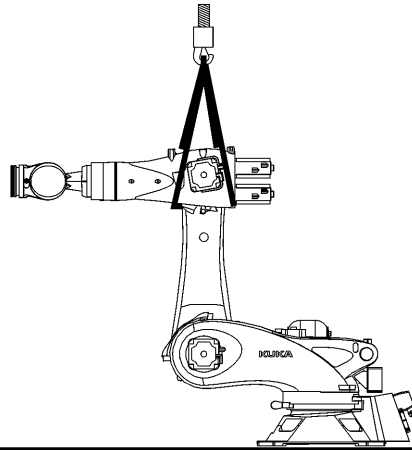

Fig. 10-3: Securing the link arm
1. Move the link arm into a vertical position and secure it using a crane (>>> Fig. 10-3).